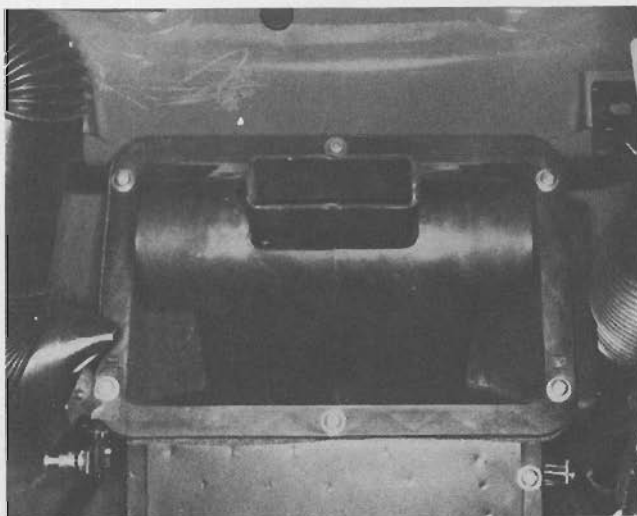

*Figure III-8. Method of Draining Heater Core With Air Pressure*
c. Loosen the heater hose clamps (supply and return lines), see Figure III-8, Items 1 and 2, at the RH side of the engine and remove the hoses from the fittings.